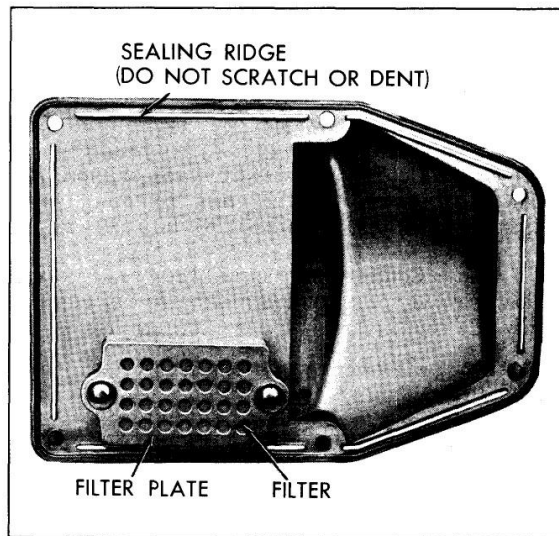

Fig. 15-14 Cover and Intake Filter Assembly
1. Remove screws and cover. To replace air filter in cover, push filter out from under filter plate (Fig. 15-14).